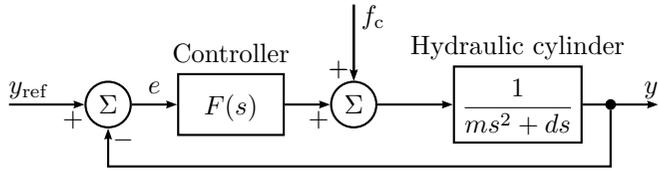

Figure 3.4a
3.4 Figure 3.4a shows the block diagram for a hydraulic servo system in an automatic lathe (Swedish: *svarv*). The output signal $y(t)$ represents the position of